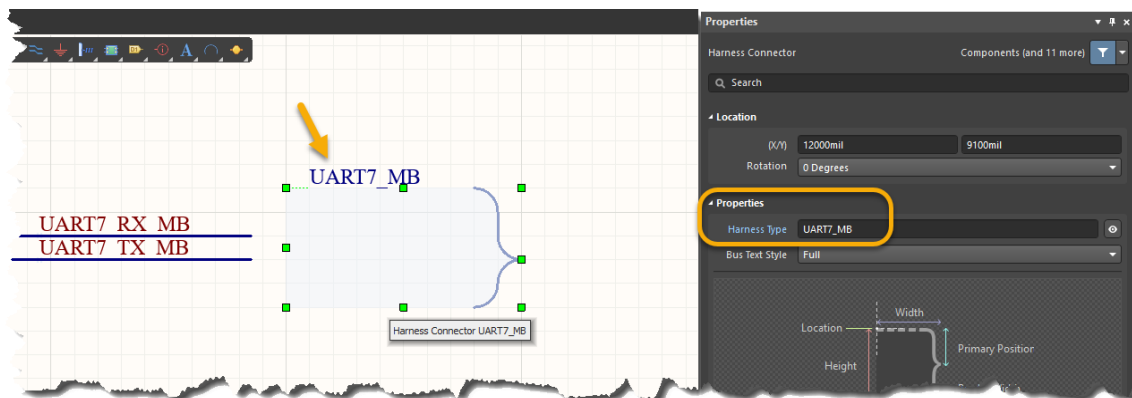

Figure 6. Harness Connector UART7\_MB
12. In the *Harness Type* field, add the name of UART7\_MB and hit **Enter** as shown in Figure 6.